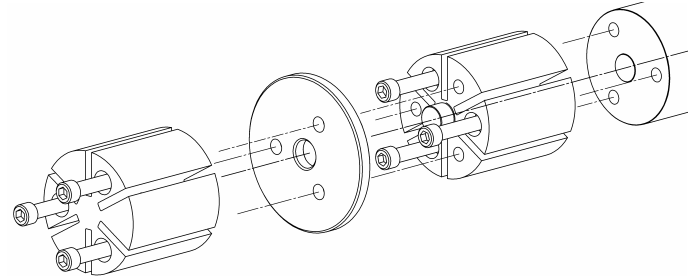

Figure 7
2. Remove the head cap screws (21). Gently remove the head from the casing. The head O-ring should come off with the head assembly.
3. Remove the outboard rotor (13D) vanes (14) & pushrods (77) by removing the socket cap-screws (13C). Set aside for reassembly.
6. Install a new vane, ensuring that the rounded edge is UP, and the relief grooves are facing towards the direction of rotation. See Figure 7.
10. Install the pushrods (77) & 3 vanes (14) in the outboard rotor (13D). Position at the bottom so pushrods are held in place. Place in the pump aligning the holes for the socket cap-screws with the holes in the rotating disc and Inboard liner.
12. Install new vanes in the top 3 vane slots, ensuring that the rounded edge is UP, and the relief grooves are facing towards the direction of rotation. See Figure 7.
13. Carefully install the head (23) into the casing. Install and tighten four head cap screws (21). Torque per Table 1 shown at the beginning of the maintenance section.
5. Remove the rotor and shaft (13) from the casing. While one hand is pushing the shaft, the other hand should be cupped underneath the rotor to prevent the vanes (14) and pushrods (77) from falling out. The outboard liner will come out with the rotor and shaft assembly. As the rotor & shaft are removed further, carefully support the shaft so it does not drop and damage the sleeve bearing, finished surfaces of the shaft or the rotating seal face as it is removed. Carefully set the rotor and shaft aside for future vane replacement and reassembly.
6. To remove the casing. Lay the pump on end with the bearing housing facing upward and remove the 4 cap screws (21A). Lift off the bearing housing and remove the Bearing Housing (57). Remove the casing o-ring (71) from between the Bearing Housing and the casing.
7. The mechanical seal & spring assembly should come out with the shaft. The stationary seat and stationary seal ring need to be removed from the seal cover (126).
- b. Slowly slide the seal cover away from the Bearing Housing until it can be removed. Remove and discard the seal cover O-ring (51).
8. Carefully pry the stationary seal elements (153A) from the seal cover (126). Be sure not to scratch the seal face or damage the elastomer seal seat.
9. If necessary, remove the Inboard liner (41) from the casing (12) by tapping around the outside diameter of the liner with a hard wood drift and a hammer until it is driven from the casing.
10. Remove the ball bearing adjuster (188) by loosening the set screw (189) and turning it counter clockwise with a strap wrench or spanner wrench.
12. **Only disassemble rotor & shaft if necessary for part replacement.** Remove the outboard set of socket cap screws (13C), the outboard rotor (13D), the rotating disc (13E), the inboard set of socket cap screws (13C) and the inboard rotor (13B). See figure 7.
14. Insert the vanes into the bottom three rotor slots with the relief grooves facing in the direction of pump rotation, and with the rounded edges outward. See Fig. 7 & 13